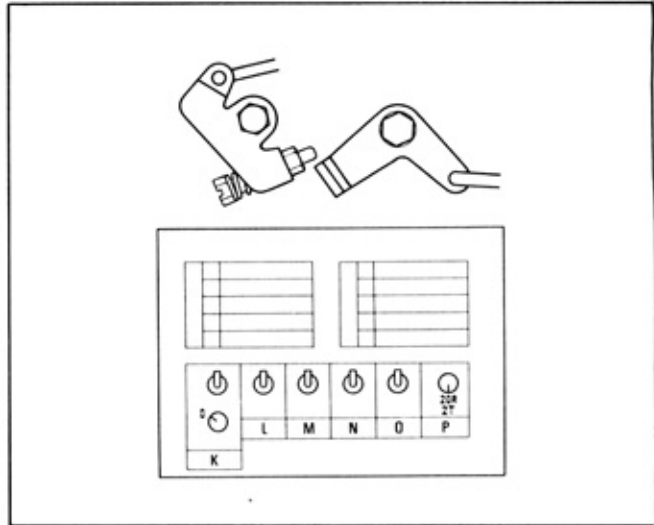

Fig. 18-135 TP Operation Inspection
- (1) With engine idling, set all checker switches to the "VEHICLE" side. The TP adjusting screw should be free from the throttle valve lever. (Fig. 18-135)